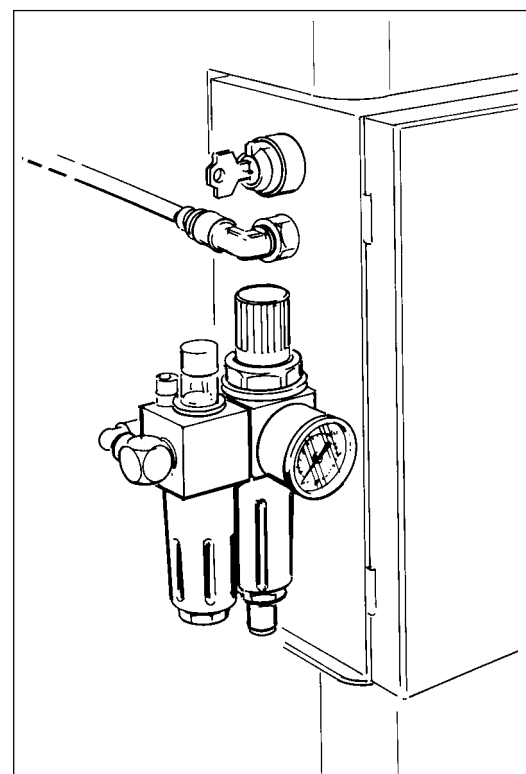

Fig. 7-3 General lubrication
7.3 GENERAL LUBRICATION (Fig. 7-3)